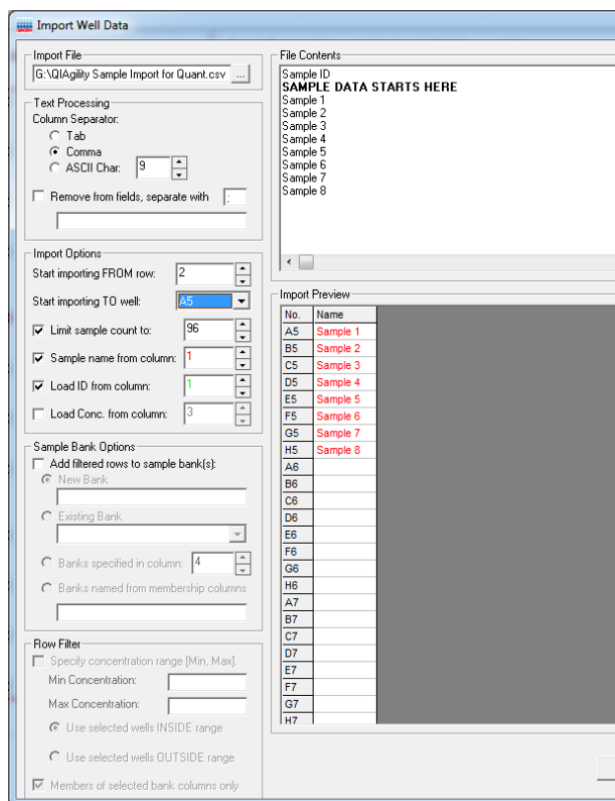

Figure 2. Import Well Data Window.
5. In the "Import Well Data" window (figure 2), be sure that under column separator, "Comma" is selected.